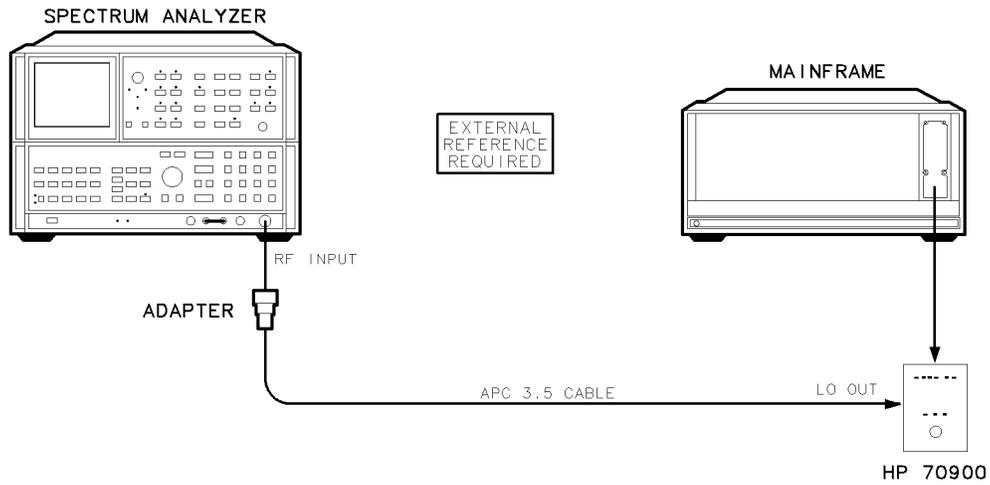

Figure 6-30. Equipment Setup for Adjustment 18. YTO Frequency Endpoints
1. Remove the HP 70900B local oscillator source’s cover and connect the equipment as illustrated in Figure 6-30.